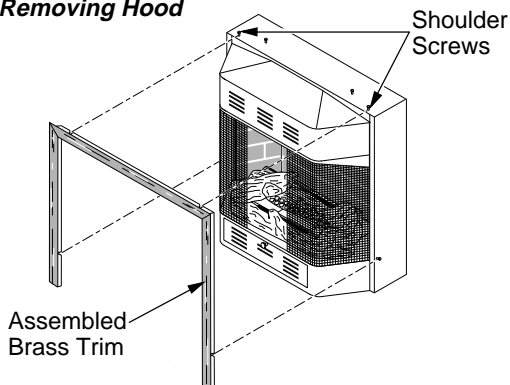

Figure 13 - Attaching Brass Trim to Fireplace
4. Place brass trim on the shoulder screws located on the side and top of the fireplace. Firmly snap the brass trim over the shoulder screws on fireplace (see Figure 13).